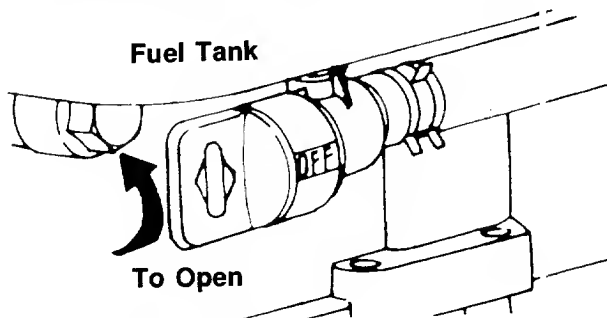

FIGURE 15.—Models 286R and 289R
2. **Models 286R and 289R only:** Open fuel shut-off valve. See figure 15.